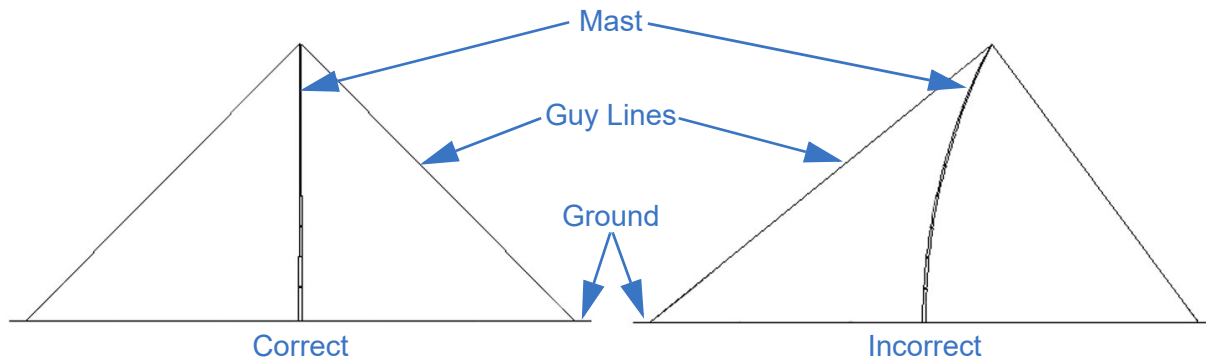

Figure 6-3 Vertically Align the Mast (Single Level Guying Shown)
12. If guy lines are used, properly secure and tension the guy lines immediately after raising the mast. All guy lines should be equally tensioned. Beginning at two locations opposite each other, gradually tension each guy line. Vertical alignment of the mast is accomplished by observing the mast perpendicularly to the two guy lines being tensioned to ensure the mast is standing straight, and is not bending too far towards one side (Figure 6-3). Adjust the appropriate guy line as necessary to keep the mast plumb vertically. Check one day after initial install. Check periodically afterwards.